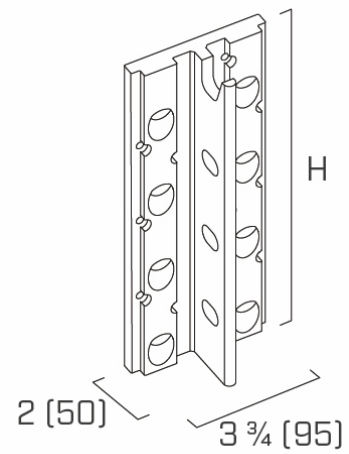

FIGURE 4—ALUMEGA HVG CONNECTOR
3.1.3 ALUMEGA HVG: The ALUMEGA HVG connector flange has a single row of holes on each side of the stem. These holes are countersunk at a 45 degree angle and are spaced $2\frac{3}{8}$ inches (60 mm) on center. The flange also has $\frac{3}{16}$ -inch-round (5 mm) holes for positioning screws. The stem has horizontal oblong holes spaced $2\frac{3}{8}$ inches (60 mm) on center. The primary fasteners are screws installed at a 45 degree angle to the face of the wood, without the use of a washer. See Figure 4 for a representative image of the connector.
¹See Figures 4 through 6 for depictions of the connectors. The 'B' dimension is 3³/₄ inches (95 mm) and the 'P' dimension is 1¹⁵/₁₆ inches (49 mm), except for the JS connector, where the 'B' dimension is 2¹¹/₁₆ inches (68 mm).